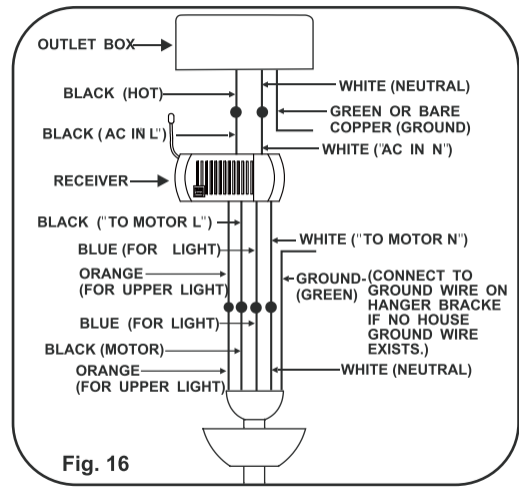

Fig. 16
**NOTE:** If your ceiling fan features an UP Light: Connect the ORANGE wire from the fan to the ORANGE wire marked "For Up Light" from the Receiver. Otherwise disregard this step and proceed to secure all wire connections with the plastic wire nuts provided. (Fig.16)
**Step 3. Receiver to House Supply Wires Electrical connections:** Connect the **WHITE** wire(Neutral) from the outlet box to the **WHITE** wire marked "AC in N" from the receiver. Connect the **BLACK** wire(Hot) from the outlet box to the **BLACK** wire marked "AC in L" from the receiver. Secure all wire connections with the plastic wire nuts provided.(Fig.16)
**Step 4.**If your outlet box has a **GROUND** wire (Green or Bare Copper) connect this wire to the Hanger Ball and Hanger Bracket Ground wires. If your outlet box does not have a Ground Wire, then connect the Hanger Ball and Hanger Bracket Ground Wire together. Secure wire connection with the plastic wire nut provided.(Fig. 16)